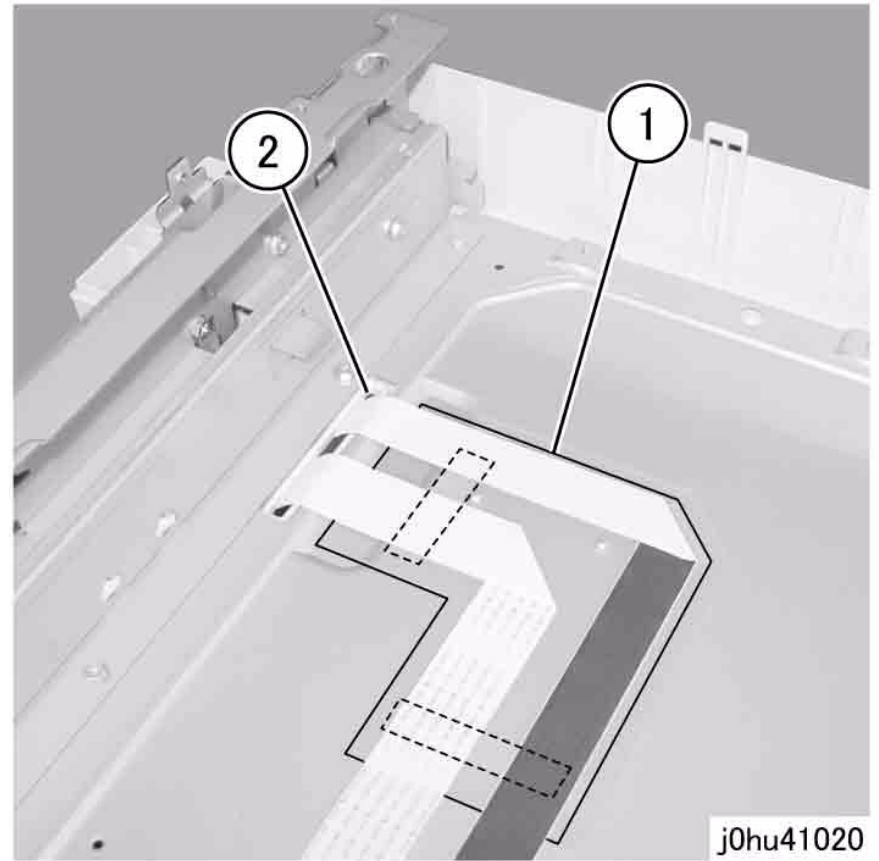

Figure 3 Remove Print Cables
6. Remove the Flexible Print Cable (Figure 3).